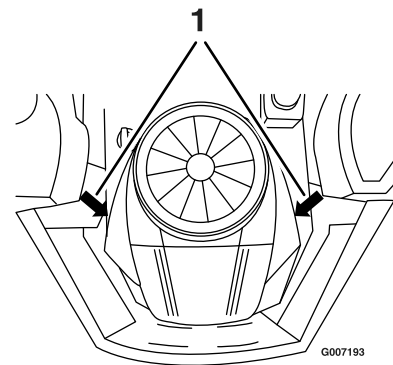

Figure 35
2. Pull the wire off of the spark plug (Figure 35). Clean around the spark plug to prevent dirt from falling into the engine and potentially causing damage.
3. Push the wire onto the spark plug (Figure 35).